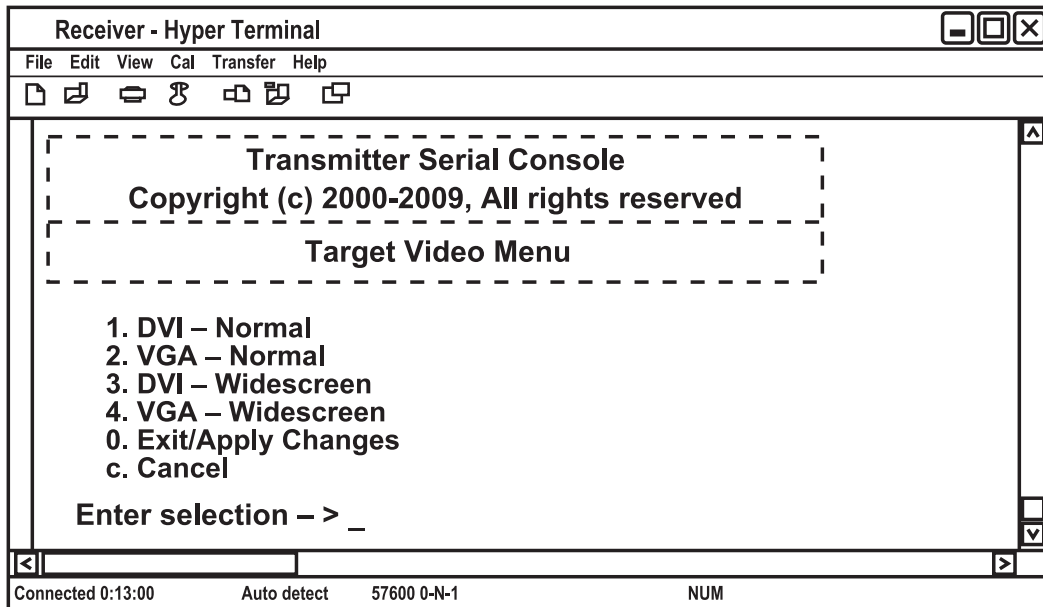

Figure 4-30. Transmitter Target Video Menu.
- 3. Press "1" to access the Target Video Menu (see Figure 4-30) and press "Enter."